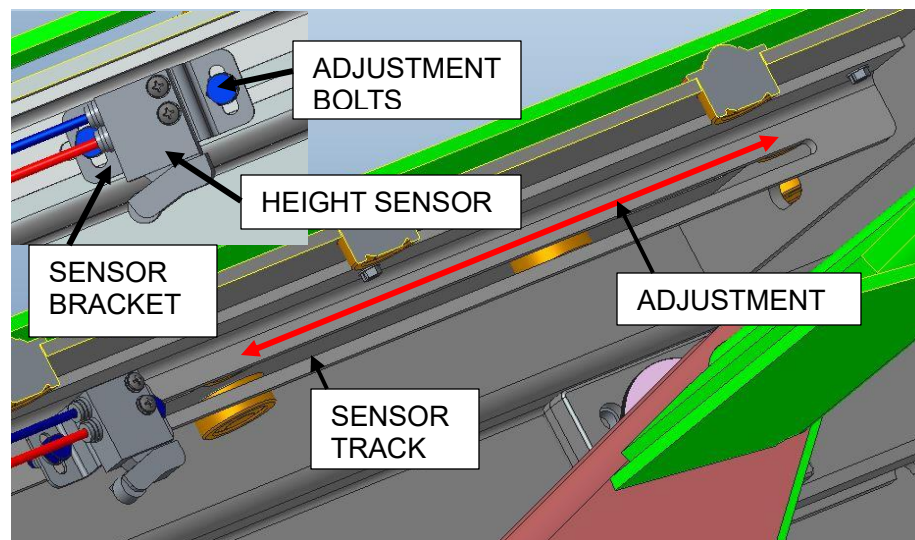

Figure 21 - Upper limit proximity sensor
2. The limit switch (see Figure 21) should automatically stop the lift once the 72" working height (bottom of base frame to top of runway) is reached.